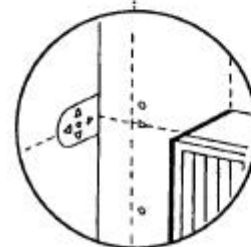

Fig. 33
8. From the wall template cut out the 'D' shaped section. Line up the horizontal triangular cut outs with the extended 300mm (12 in) line and make sure that the flat of the template is butted up against the corner of the wall (Fig. 33).